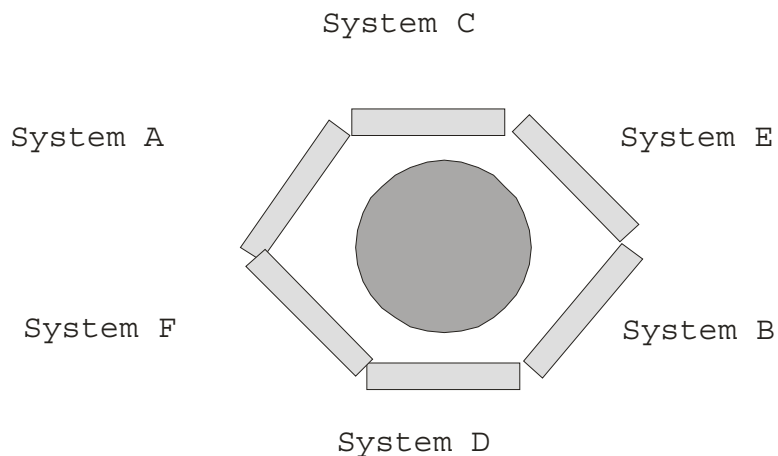

Figure 3 *Cross-section view of S1000-RX antennas around mast with proper channel allocation*
- Install the systems with the co-located channels (as an example channels 1 & 3, channels 5 & 7 or channels 9 & 11) back to back or as close to back to back as possible (as illustrated in Figure 3 below):